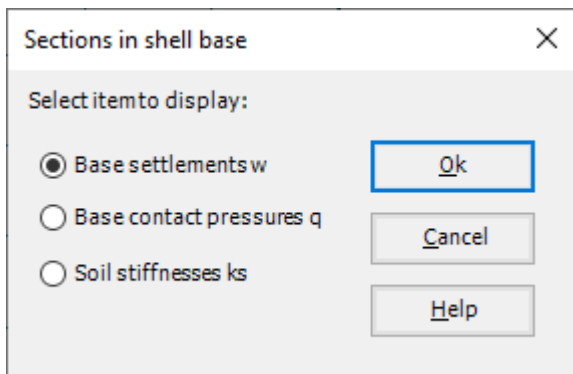

Figure 1.22 "Sections in shell base" option box
- Choose "Sections in shell base" command from "Section" menu. The following option box in Figure 1.22 appears